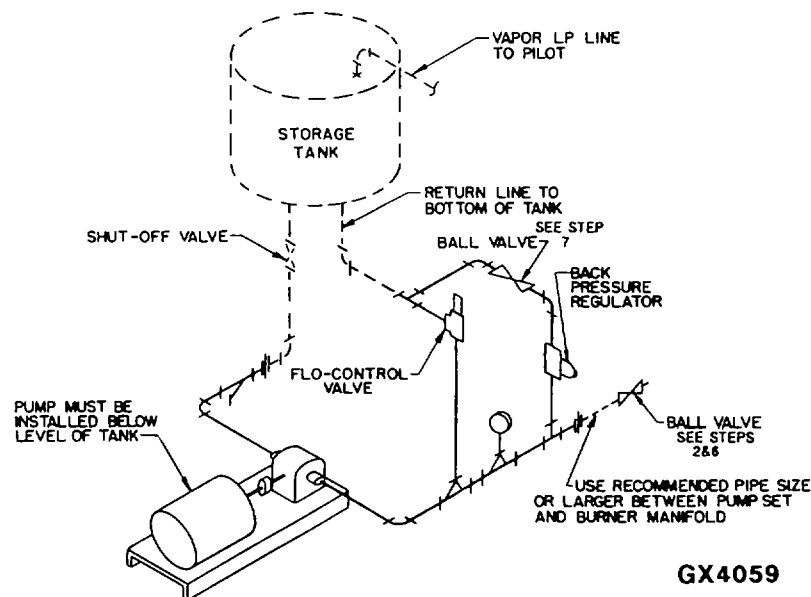

Fig. 13- Schematic to aid in adjusting the constant pressure regulator system.
Hauck strongly recommends that a Flo-Control valve and a back-pressure regulator (available from Hauck) be installed in all LP systems and piped as shown in fig. 13 (see also, GX4059). All components must be rated for 350 psig for LP use.
2. Close the ball valve upstream of the LP solenoid valve (see fig. 13).
- a. Close the ball valve downstream of the backpressure regulator to temporarily take the regulator out of the system (see fig. 13).
- b. Adjust the pump bypass valve value for an initial setting for your burner 100 psi above the maximum expected tank pressure. Refer to fig. 13.
- c. To adjust the backpressure regulator, open the ball valve downstream of the backpressure regulator and adjust the regulator to an initial setting of 50 psig above the maximum expected tank pressure (see fig. 13) and table 2.